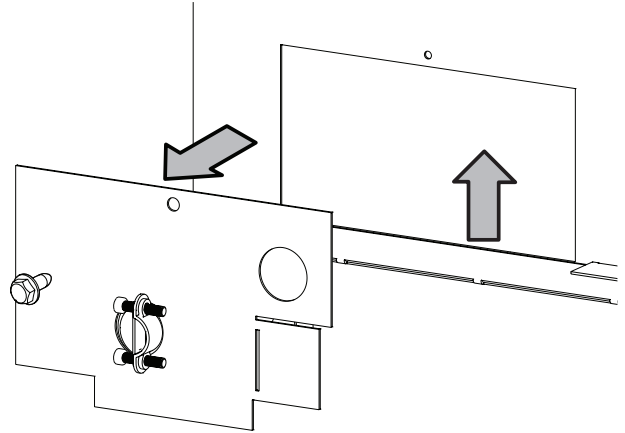

Figure 11
10. Connect the wire harness from the light kit to incoming power from the wall switch inside the junction box. **See Junction Box Wiring Instructions and Figures 11 and 12.**
1. Remove the electrical access cover panel from the left end of the fireplace. **See Figure 11.**
5. Re-install the junction box and electrical access cover panel onto the firebox using the screw removed in step 1. **See Figure 11.**